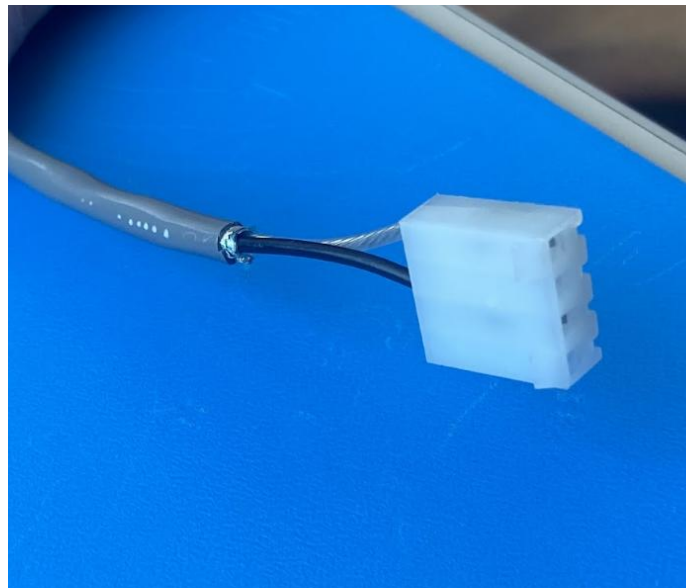

Figure 2: ACDC Power Cable
- (a) A gray power cable, which can be seen in Fig. 2 for the ACDC.